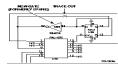

Figure 4. Modification Schematic
10. Figure 4 summarizes the electrical changes made by this modification. Use an Ohmmeter to check your work.